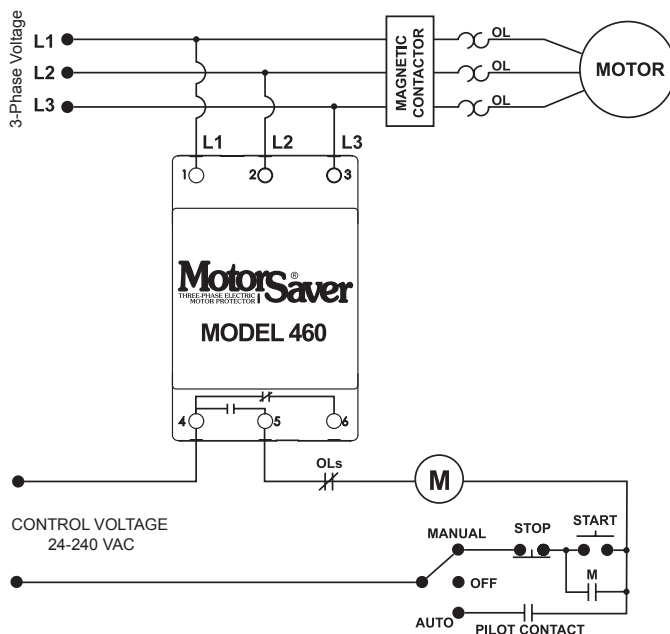
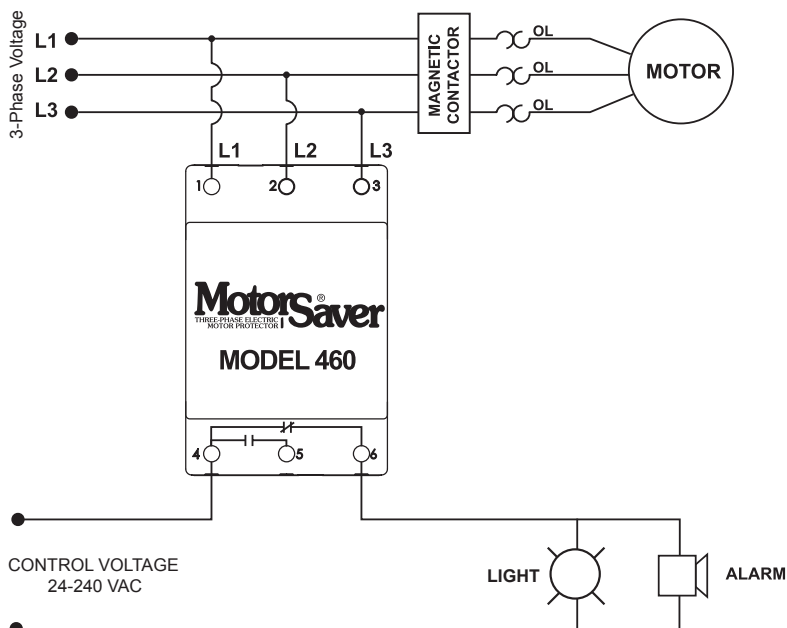

FIGURE NO. 1: CONTROL WIRING DIAGRAM
FIGURE NO. 2: ALARM WIRING DIAGRAM
2. Connect L1, L2 and L3 on the MotorSaver's terminal strip to the LINE SIDE of the motor starter. (See Figure No. 1).
3. Connect the output relay to the circuitry to be controlled. For motor control, connect the normally open contact in series with the magnetic coil of the motor starter as shown in Figure No. 1. For alarm operation, connect the normally closed contact in series with the control circuit as shown in Figure No. 2.